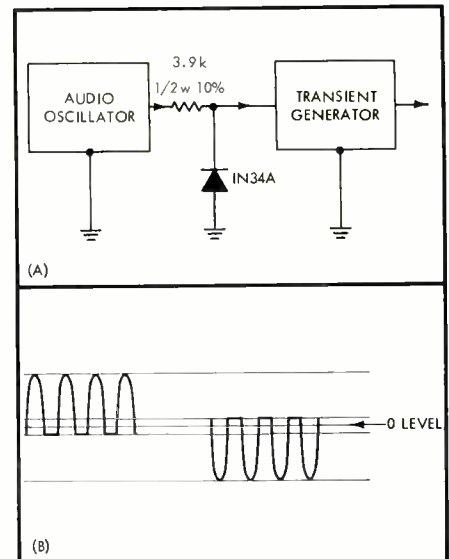

Fig. 6. (A) Asymmetrical generator; (B) waveform of asymmetrical generator.
2.2.4 THE COMPOSITE CURVE is shown in Figure 6 of the N.A.B. Recording and Reproducing Standards Supplement #2 dated June 1953.